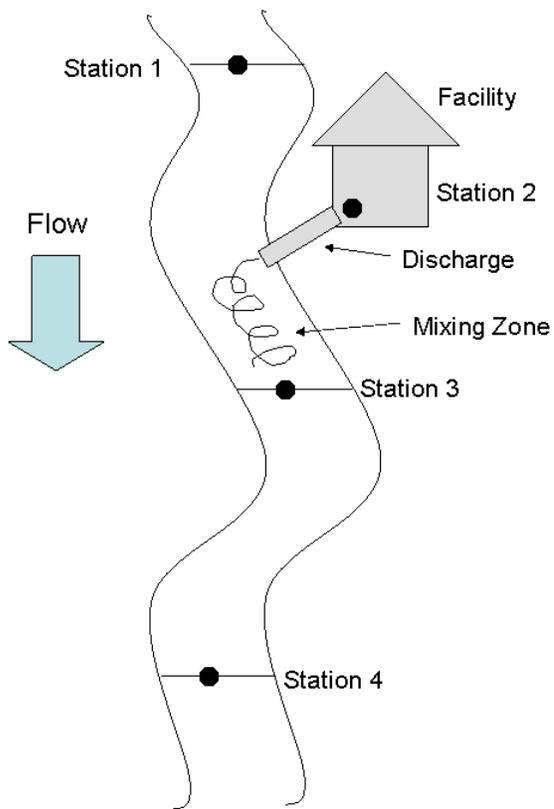

Figure 1. Schematic of example station locations in relation to permitted facility.
- 7) An example station schematic is shown below (Fig1).